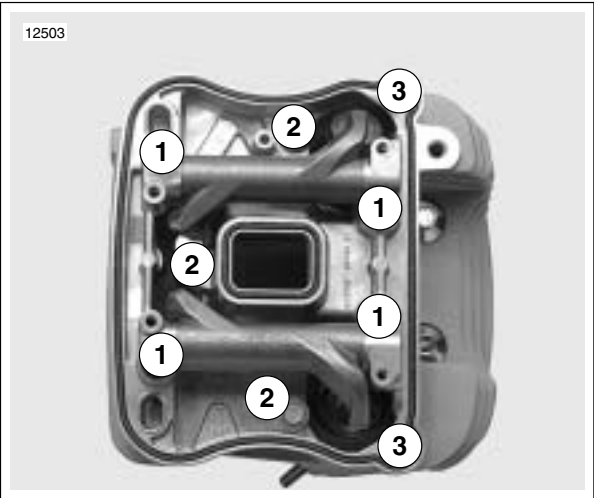

Figure 3-84. Lower Rocker Box Fasteners
- 9. See Figure 3-84. Install **new** gaskets. Place lower rocker box assembly (with rocker arms and shafts) into position. Place push rods in rocker arm sockets.
- 10. See Figure 3-84. Install hardware attaching lower rocker cover to cylinder head in the following order. After loosely installing all fasteners, use a cross pattern on the four large bolts that fasten the lower rocker box to head to tighten and then torque to specifications. This will bleed the tappets. Finish tightening remaining fasteners. Fastener sequences, sizes and torque specifications are listed in Table 3-21.
- a. Tighten bolts (1) to 18-22 ft-lbs (24-30 Nm).
- b. Tighten bolts (2) to 135-155 **in-lbs** (15-17.5 Nm).
- c. Tighten screws (3) to 135-155 **in-lbs** (15-17.5 Nm).